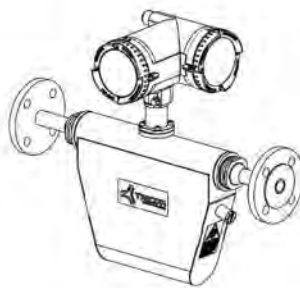

Fig. 4: Compact version with TCD 9100 transmitter
- For the configurations involving the **TRICOR TCD 9100 transmitter installed with the sensor enclosure** (see figure 4) the maximum allowable process fluid temperatures with respect to the marked temperature class and maximum surface temperature for the device in the following maximum ambient temperatures are: